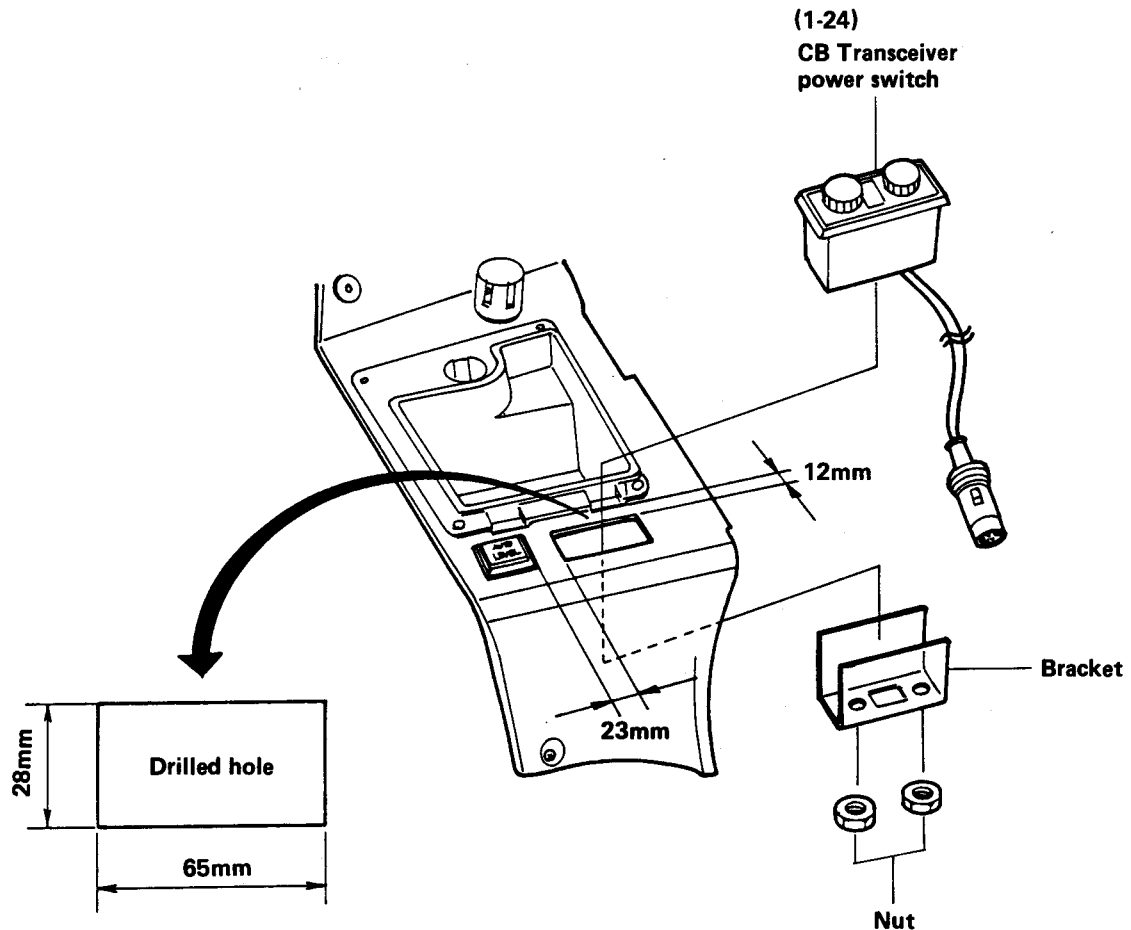

Fig. 15
- 1) Make a rectangular hole 28mmx65mm in the left-side fairing panel (Fig. 15).